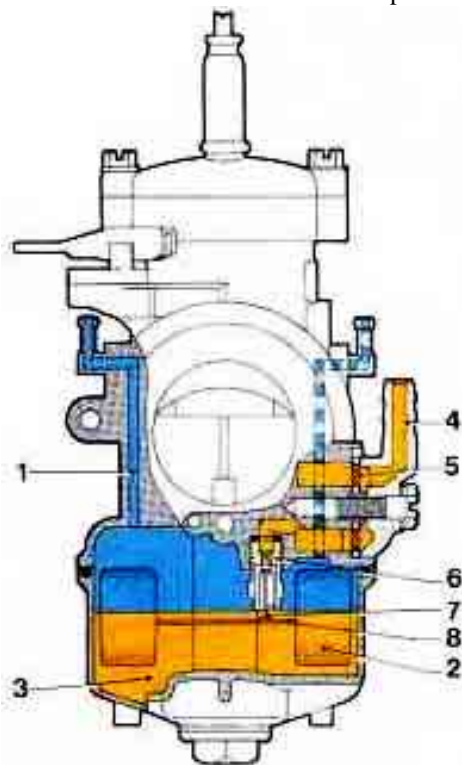

fig.9
Further, check that fuel filter (5) in the union banjo (4) of the carburettor is clean. Fuel from the tank supplies the carburettor (**fig.9**) through a valve in which a float-controlled needle operates (2).